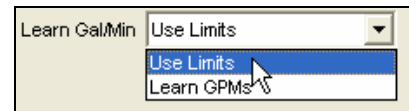

Figure 16.3.9A
6. Next edit the **Learned Gal/Min** box. Use the drop down arrow to the right (Figure 16.3.9A).